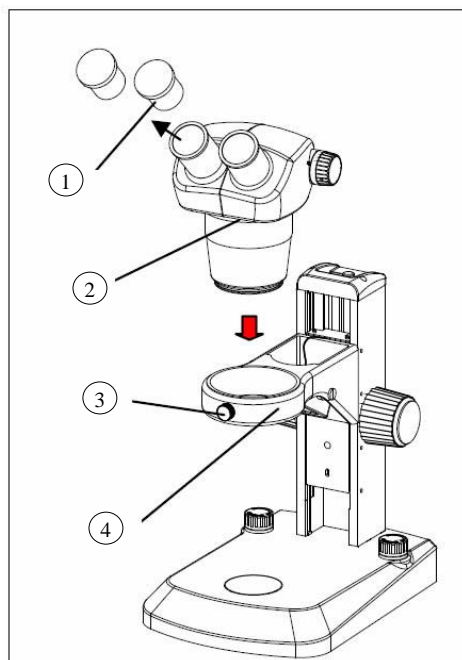
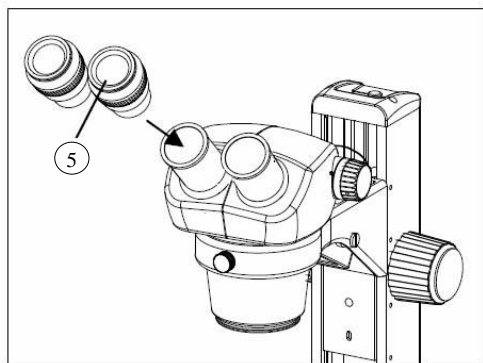
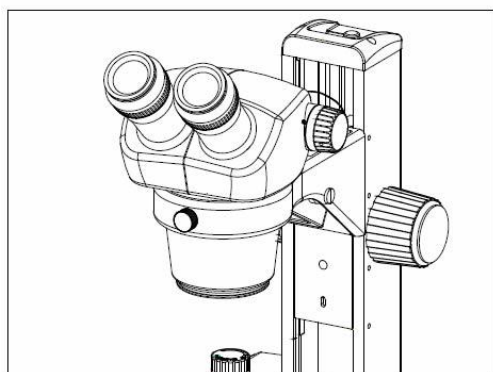

Figure 1
Figure 2
Figure 3
### 2.2.1. Mounting binocular head (Figure 1)
### 2.2.2. Mounting eyepieces (Figure 1, Figure 2, Figure 3)
Remove the eyepiece dust caps (1) and gently insert two adjustable eyepieces (5) into the eyepiece sleeves until they stops, as in Figure 3.